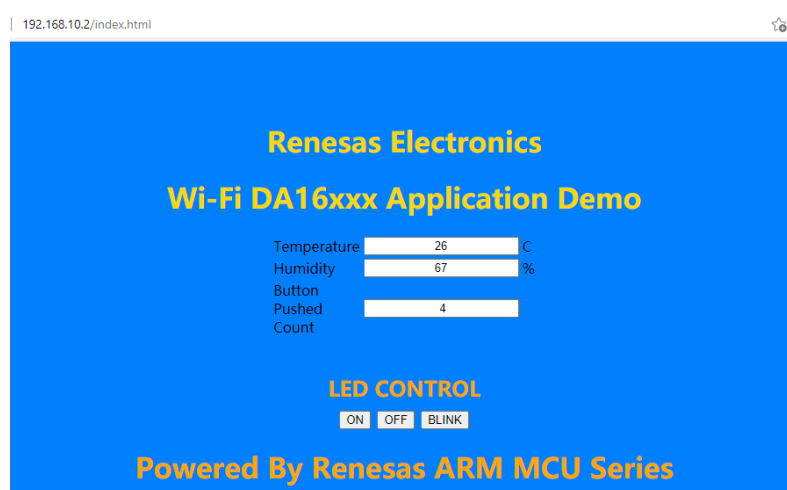

Figure 7. Customized Interface
- Open a browser such as Google Chrome or Microsoft Edge, input **http://192.168.10.2/index.html** and the customized interface opens (Figure 7).